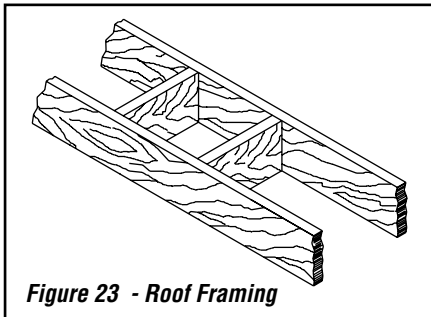

Figure 23 - Roof Framing
1. Cut and frame the holes in the ceiling, floor and roof where the chimney will pass (see **Figure 23**). Use a plumb-bob to line up the center of the holes. The sizes are indicated in **Table 2** for the floor and ceiling holes and **Table 3 (Page 17)** for the roof holes.